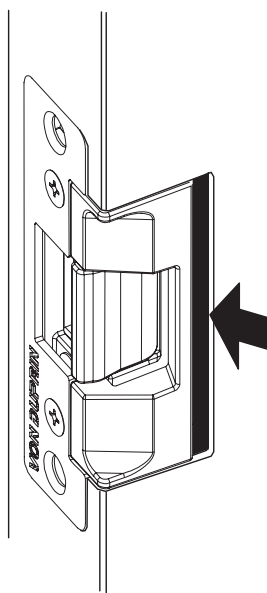

Figure 6
8. Test strike: Apply solenoid power. Fail secure (FSE) lip unlocks. Fail safe (FS) lip locks.
9. If cut-out for strike is too large along edge (Figure 6), cut neoprene filler and stick onto strike as shown (Figure 7). Note: This could occur in some retrofit applications.